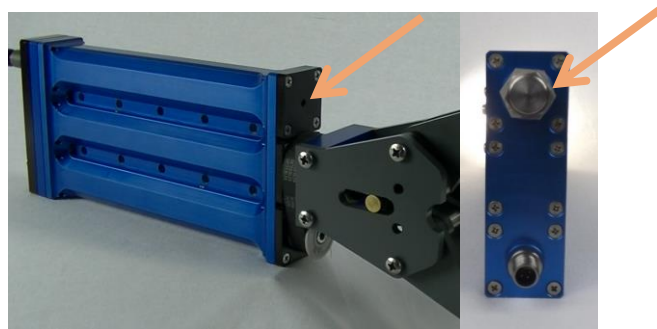

FIGURE 7: BELLOWS PISTON AND OIL PORT
1. Insert an M3x25 socket cap screw into the bellows piston through the bellow port (see Figure 7 below) such that it *gently* seats on the front cap. **Failure to do this will result in loss of oil.**